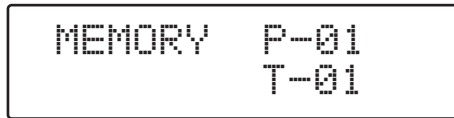

Fig 9.
1. Press the STOP button (4) to stop playback (if required).
2. Press the MEMORY button on the remote control. You will see the below options appear on the display. (Fig 9)